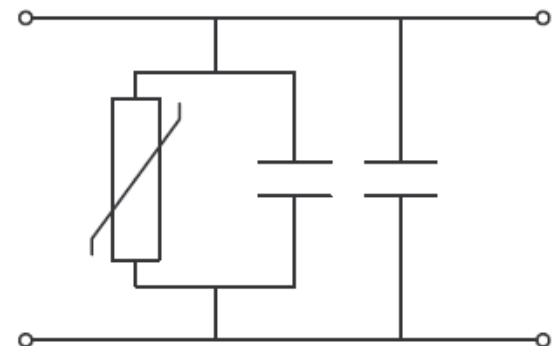

Fig. 4 MOV C filter with additional capacitor planar
2. A high capacitance C filter when used in parallel with a capacitor planar: Fig. 4.